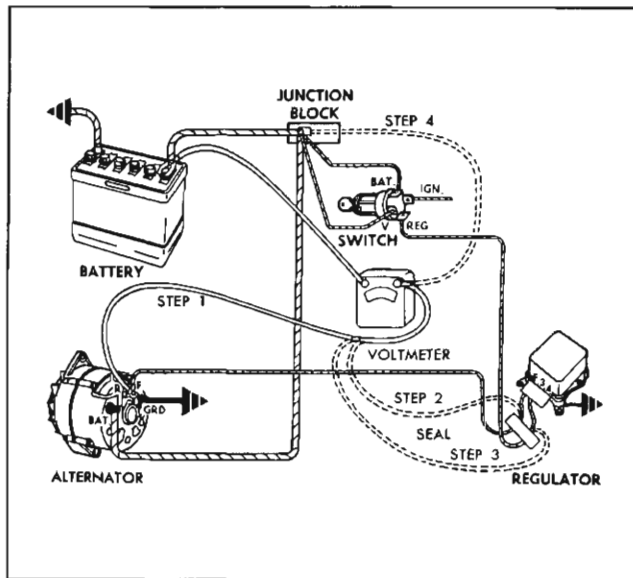

Fig. 11-28 Voltmeter Measuring Resistance
7. Reconnect field lead to alternator and connect voltmeter between field lead connection at alternator and positive battery terminal (Fig. 11-28). With ignition on, reading should be less than 0.3 volts. If not, move voltmeter lead from alternator field terminal to F terminal on regulator (using adapter J-9782-3) and then move from F terminal to the No. 3 terminal. As a final check, move the voltmeter lead from regulator No. 3 terminal to horn relay junction. These checks should locate point of excessive resistance. If contact points are oxidized, refer to "Clean Contact Points" for cleaning instructions.